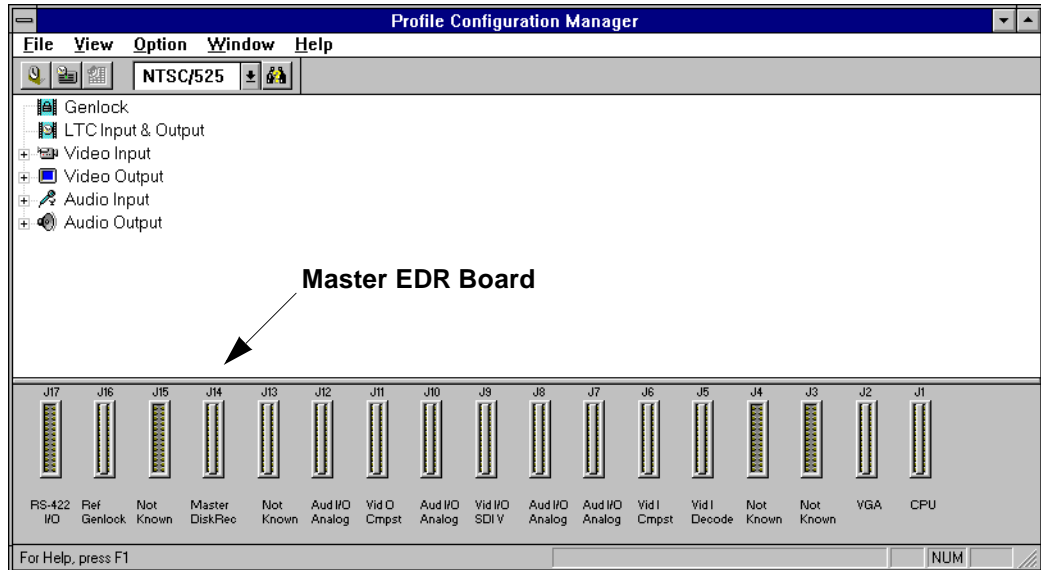

Figure 20. Configuration Manager showing Master EDR board installed
3. Look at the bottom of the Configuration Manager window to ensure that **Master DiskRec** appears in the slot where you have installed the Master EDR board. Refer to the example in Figure 20 on page 26.